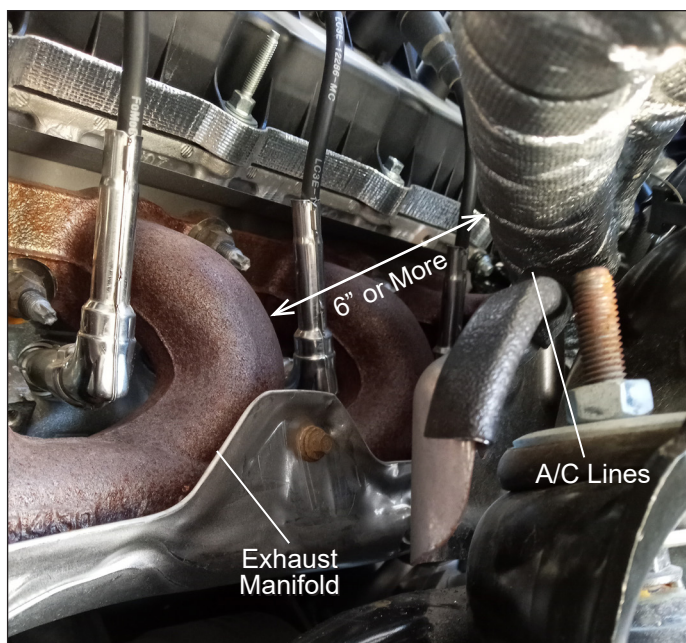

Figure 2 — Inspecting the A/C Lines
4. Measure the distance between the A/C lines and the exhaust manifold (refer to Figure 2). The A/C lines should be at least 6" from the manifold. If there is slack in the lines, gently pull the lines taut to make sure there is at least 6" between the lines and the manifold when stretched to maximum length.